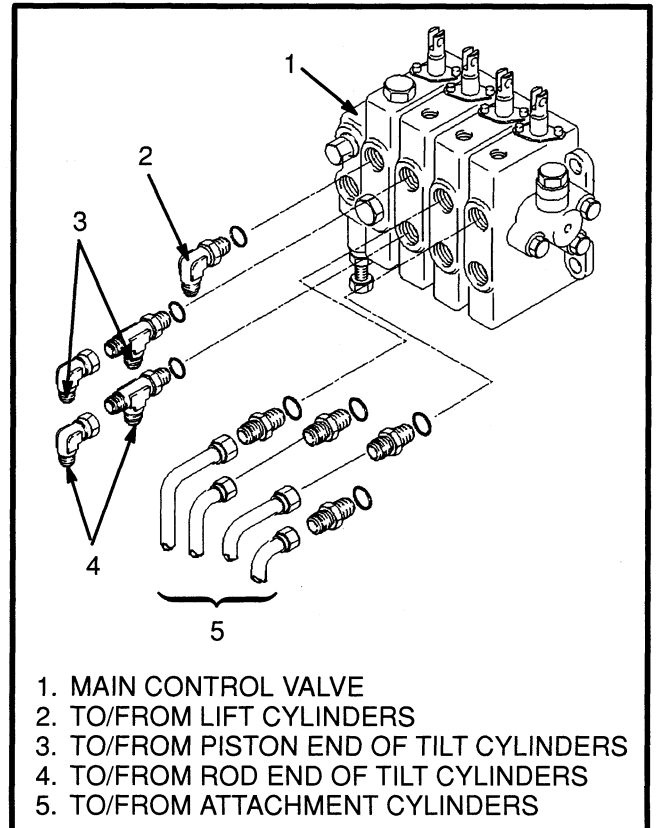

FIGURE 9. HYDRAULIC LINE ARRANGEMENT
1. Remove the cowl cover from the right side of the engine compartment. Remove the cover tray (16) from around the control levers.
2. Remove the cotter pins (13) and link pins (12) that connect the control levers to the spools. Remove the bolts that hold the end plates (7) to the control valve mount. Remove the linkage as a unit.
3. Disconnect the lines at the control valve. See FIGURE 9. Put caps on the open lines.
4. See FIGURE 9. Connect the hydraulic lines to the control valve.